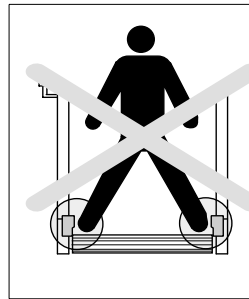

Figure 25 Opposing sensors must not be activated simultaneously
- Muting sensors must be arranged such that muting cannot be triggered unintentionally by any person (*Figure 25 and 26*).